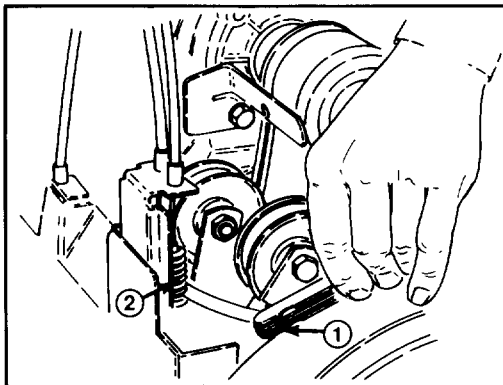

Figure 21
2. **CHECKING IMPELLER CABLE ADJUSTMENT** — With the engine off, depress the impeller lever on the right handgrip. Hold the lever and insert a .010" (.25mm) feeler gauge between the coil in the center of the spring (Fig. 21). Adjust the cable to achieve .009"-.012" (.23mm-.3 mm) gap between the coils.